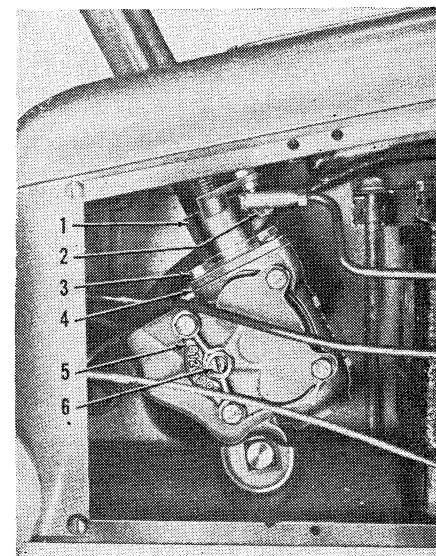

Fig. MH3—Pony steering gear adjustment.
5. **ADJUSTMENT.** Adjustment of Ross cam and lever steering on the Pony tractor is done with the right side panel removed as in Fig. MH3. All adjustments are made with front wheels raised or with drag link disconnected to relieve load on steering mechanism.
6. **CAM SHAFT.** To adjust cam or steering shaft bearings, loosen steering column clamp (1) and remove the three cap screws (3). Note that one of these cap screws has a copper washer under its head; replace in same position. Raise cover and separate one shim (4) from pack; split shim and remove it. Replace cover and cap screws and test for end play of bearings. All end play should be removed, but there should be no drag on steering gear except through its mid-position and then only when lever shaft is in correct (zero backlash) adjustment.
7. **LEVER SHAFT.** Loosen lock nut on lever shaft screw (6) and turn screw in until slight drag is felt when steering wheel is turned through its mid-